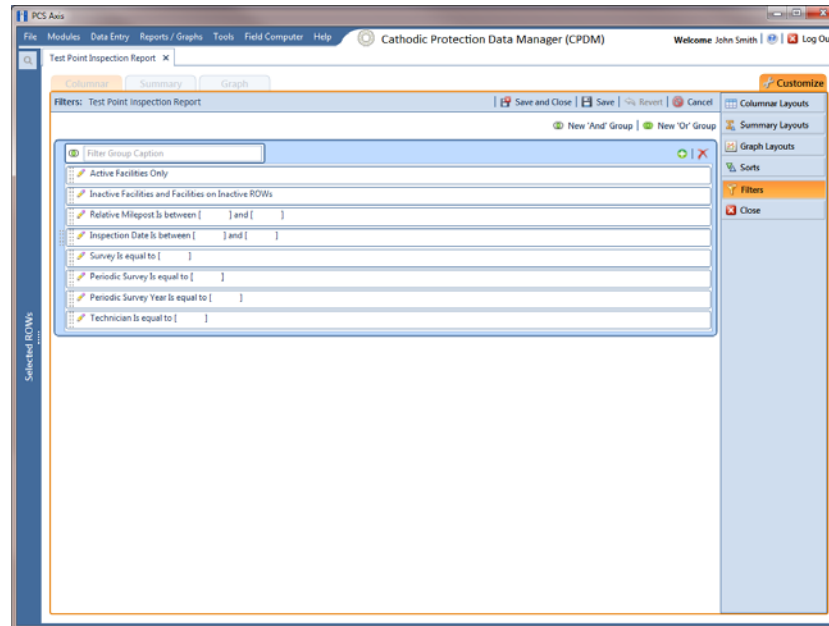

Figure 15-46. Filters
- 3 Click the **Customize** tab  then the **Filters** button  to open the *Filters* page (Figure 15-46).